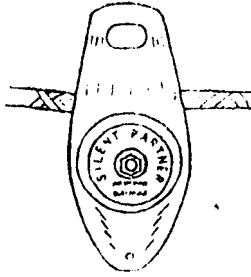

Figure 3: Correct Rope Orientation
IT IS VERY IMPORTANT THAT THE ROPE LEAVES THE HOUSING AS SHOWN IN FIGURE 3.
- 3) Position the rope so that it will leave the housing as shown in Figure 3.